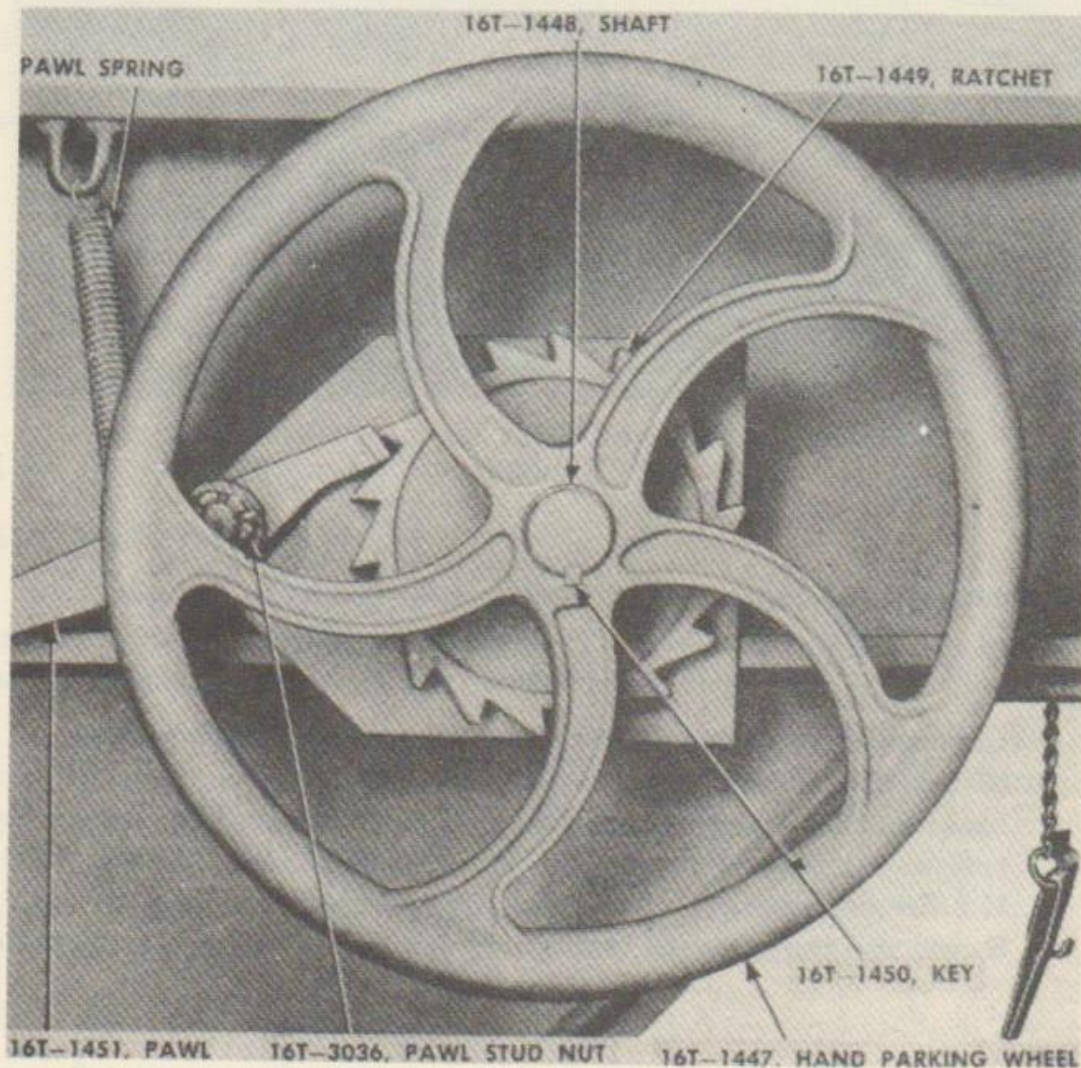

FIGURE 46. HAND WHEEL AND SHAFT
b. **Hand Wheel and Shaft** (fig. 46).
(2) **INSTALLATION**—Place key in keyway. Install ratchet on shaft with the teeth pointing clockwise (fig. 46). Place hand wheel on shaft with the set screw hole towards the opposite end of shaft. Aline keyway in hand wheel with key in shaft, and drive the hand wheel on the shaft until wheel is flush with the end of shaft. Lift up on the pawl and install the shaft and wheel assembly in hole at gooseneck. Install washer over inner end of shaft and fasten the assembly in position using cotter pin. Fasten end of cable and chain assembly to the shaft using a carriage bolt, lock washer and nut.